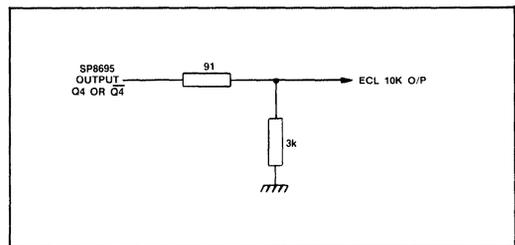

Fig.8 Interfacing to SP8695 output to ECL 10K
3. The Q4 and Q3 ECL outputs have internal circuitry equivalent to a 14k pull-down resistor on each output and are ECL II compatible: they can however be interfaced to ECL III/10K as shown in Fig. 8.